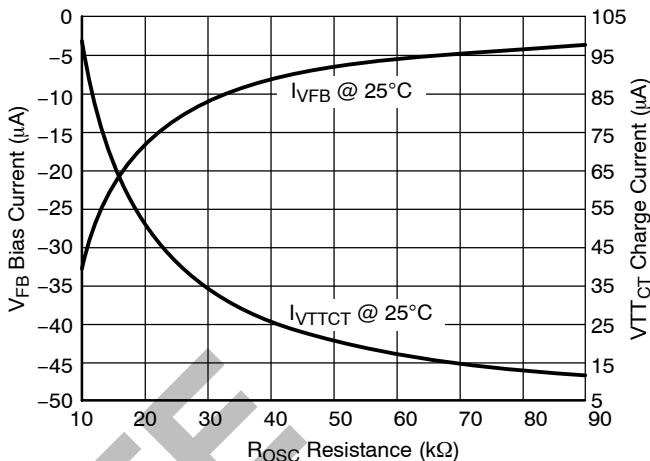

Figure 4. VFB & VTTCT Currents vs. ROSC Value
- The  $V_{\text{FB}}$  Bias Current and VTTCT Charge Currents change with the value of  $R_{\text{OSC}}$  per Figure 4.